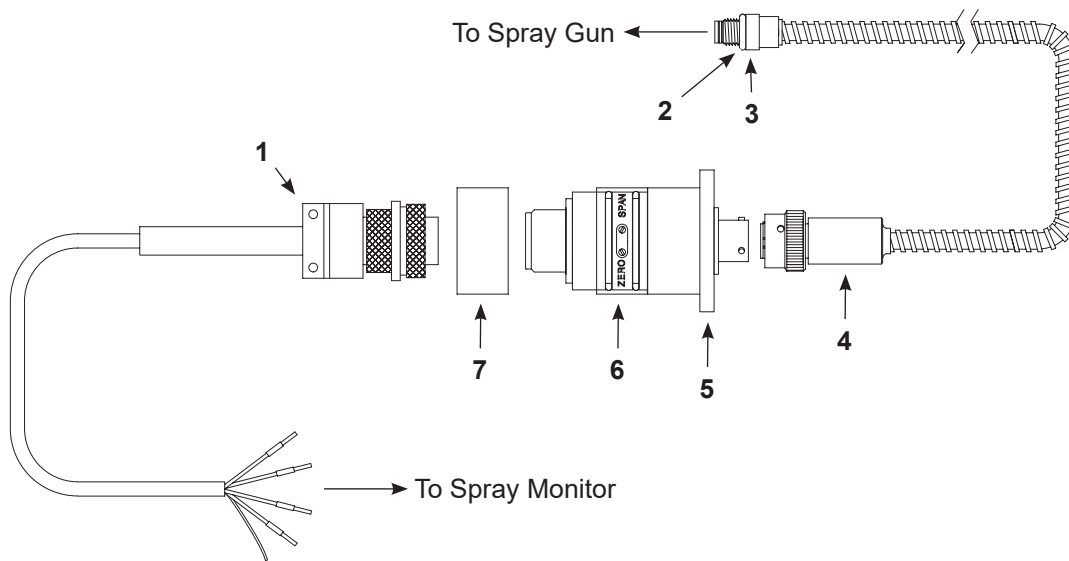
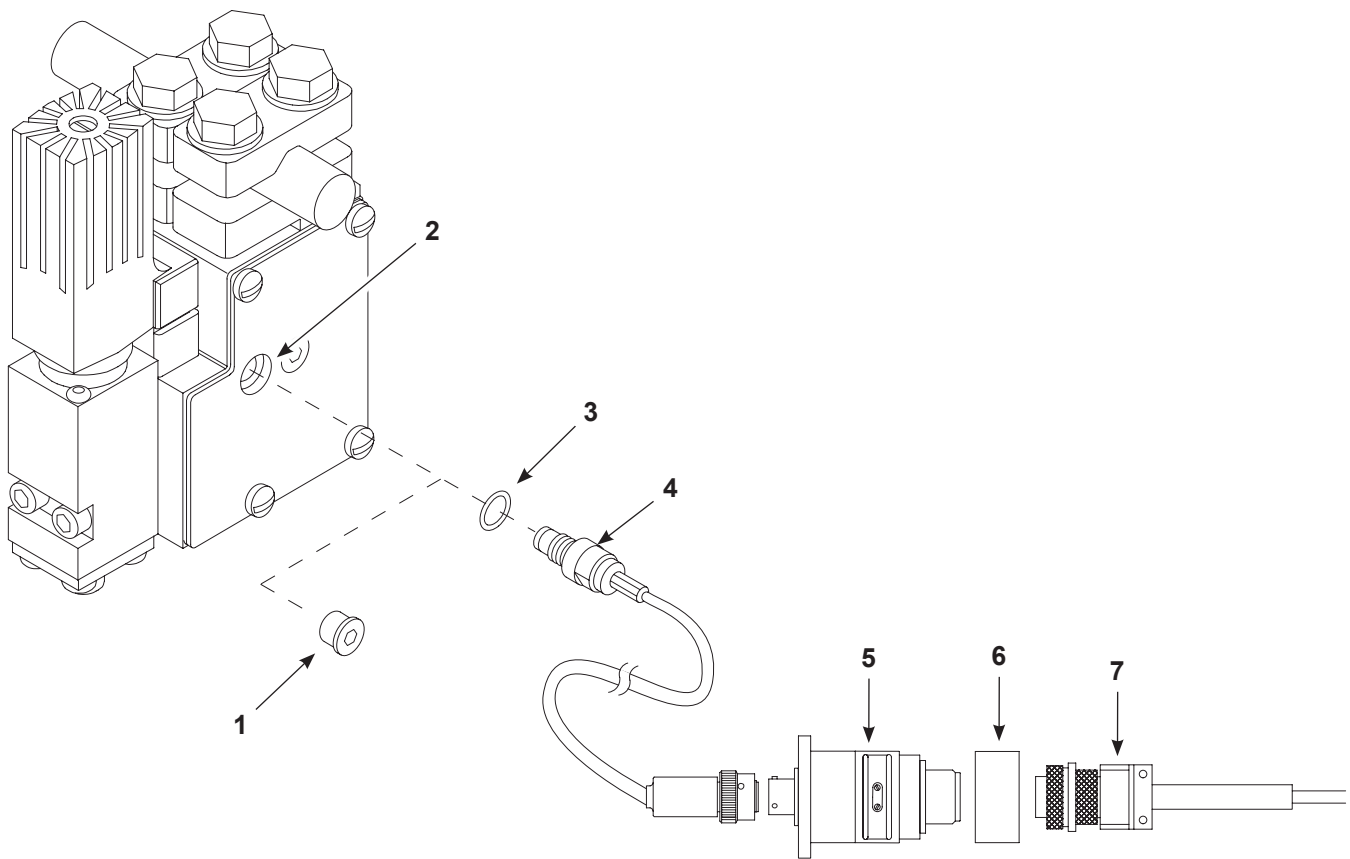

Figure 1 Pressure Transducer and Amplifier Assembly
Figure 3 O-Ring Replacement
Figure 1 shows the pressure transducer and amplifier assembly. The assembly is a calibrated, matched set. Cable lengths are:
1. See Figure 3. Make sure the O-ring (3) is installed on the pressure transducer (4).
2. Remove the transducer plug (1) from the spray gun manifold port (2).
3. Thread the pressure transducer (4) into the spray gun manifold port (2). Tighten the pressure transducer (4) to 50 in.-lb (5.65 N•m). Do not overtighten.
4. See Figure 1. Connect the pressure transducer (4) to the amplifier (5).
5. Connect the cordset (7) to the amplifier (5) with the cover sleeve (6) in between. Route the cordset (7) to the spray monitor.